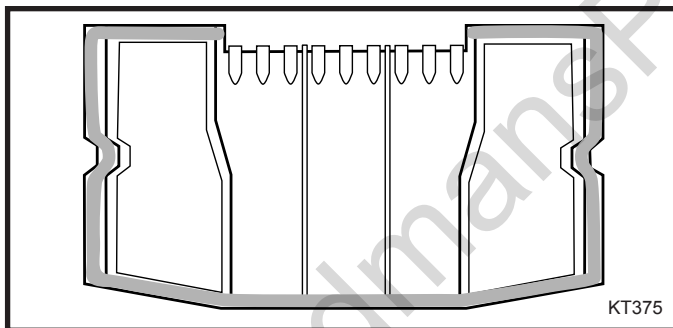

Fig. 4 Fiberglass gasket on back of lower fireback.
11. Check the tube of gasket cement. This is a clay-based, water-solvent material, and the water can separate from the clay during storage. Before you open the tube, knead it in your hands to ensure the cement and the water are thoroughly mixed. Cut off the tip of the tube. Apply a thin bead of gasket cement to the back of the new lower fireback, in the channel shown in Figure 4. Twist the ends of the fiberglass gasket, to keep it from unraveling. Press the gasket into the channel. Do not cut the gasket to final length until you have positioned it in the cemented channel.